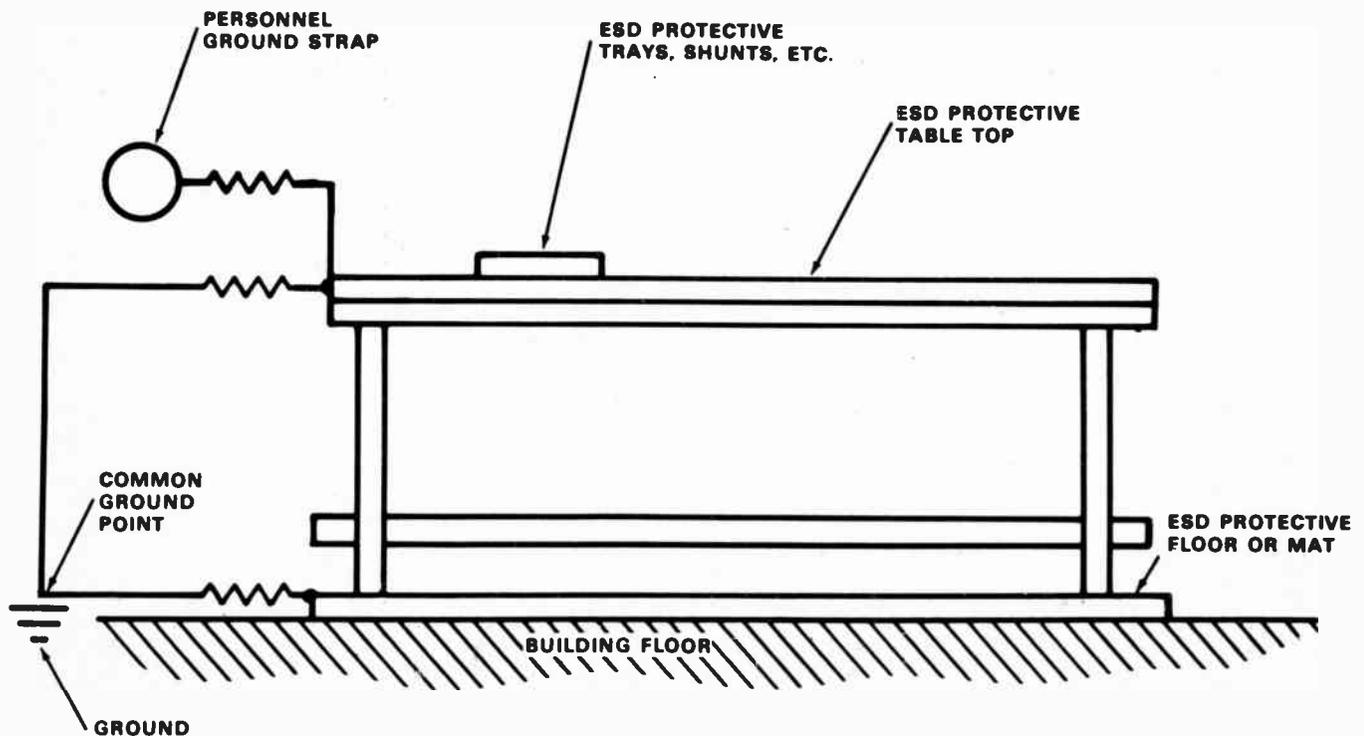

Figure 5. Typical ESD grounded work bench.
3. Maintain good grounding techniques by keeping equipment and personnel at the same potential. Use conductive countertops, floor mattings, wrist straps, or arm sleeves, and make proper connections to a grounding source. (See Figure 5.)
In the case of an open input bond (Figure 5), we find that the open circuit blocks the signal driving the input from entering the IC
Figure 5. An open input bond blocks the incoming signal, allowing the input to float to a 'bad level' — interpreted as a high. Signals at points A and B illustrated above.
chip. The input on the chip is thus allowed to float and will respond as though it were a static high signal. It is important to realise that since the open circuit occurs on the input inside the IC, the digital signal driving this input will be unaffected by the open circuit and will be detectable when looking at the input pin (such as at Point A in Figure 5). The effect will be to block this signal inside the IC and the resulting IC operation will be as though the input were a static high.